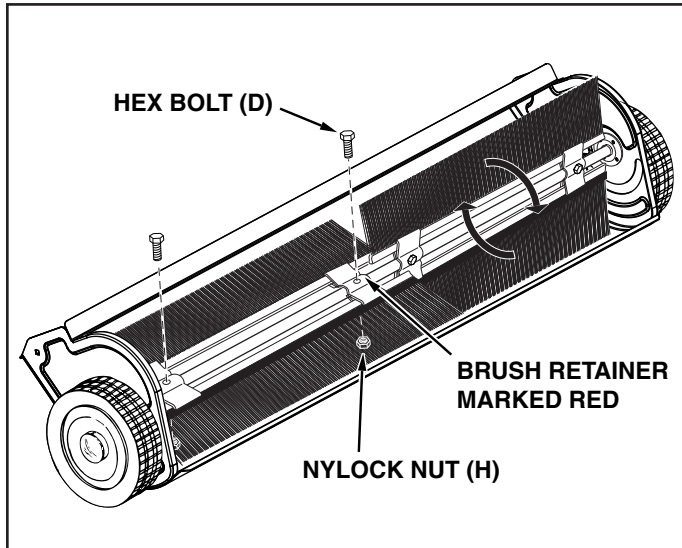

FIGURE 3
- Attach the brush assembly with the red brush retainer to the left end of the brush shaft using two hex bolts (D) and nylock nuts (H). The brush retainer marked with red ink must be placed to the **middle** of the sweeper. See figure 3.